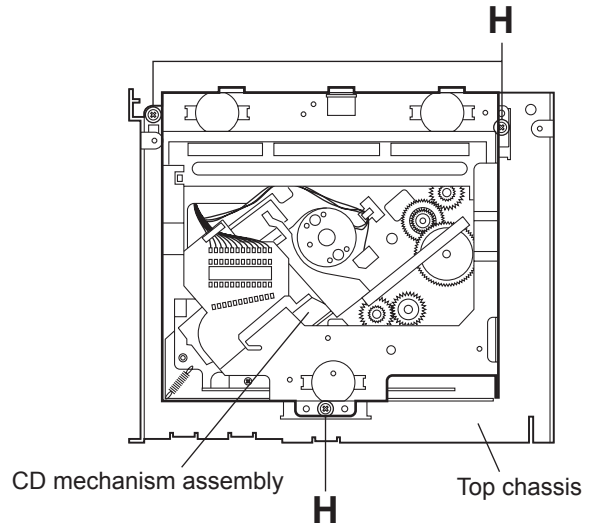

Fig.10
2.1.7 Removing the CD mechanism assembly (See Fig.10)
(See Figs.10 and 11)